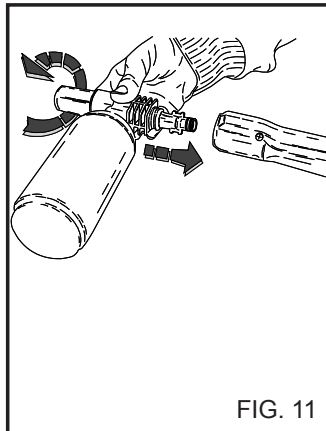

FIG. 11
2) Remove the extension tube from the handgrip and attach the detergent spray kit (fig. 11), operate the water cleaner and spray the surface to be washed, starting from the bottom and working upwards. In the version with detergent suction, open the detergent tap (fig. 7B) and move the nozzle forwards. Leave to work for a few minutes.